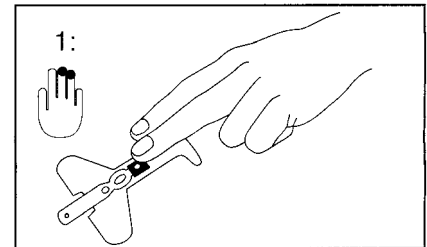

Fig. 31 Positioning the sensor
- 1 Open the packaging and remove the sensor. Hold the sensor with the printed beige side downwards and bend it back to draw off the rear side. Align the sensor so that the receiver can be attached first (Fig. 31).